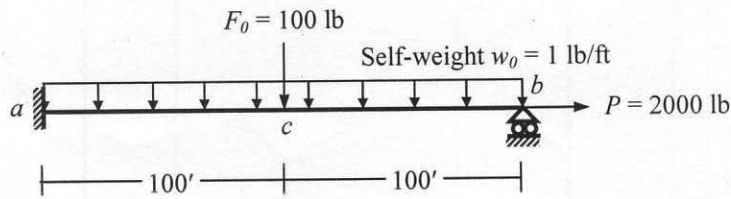

Fig. 8
13. The 200-ft long cable acb shown in Fig. 8 (subjected to tension $P = 2000$ lb), carries a concentrated load of $F_0 = 100$ lb, in addition to a distributed self-weight $w_0 = 1$ lb/ft.